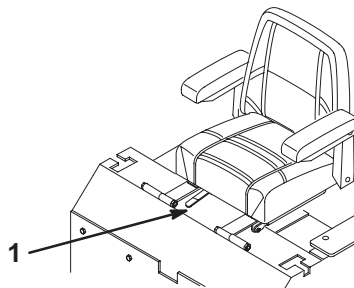

Figure 25
1. To adjust, move the lever sideways to unlock the seat (Fig. 25).